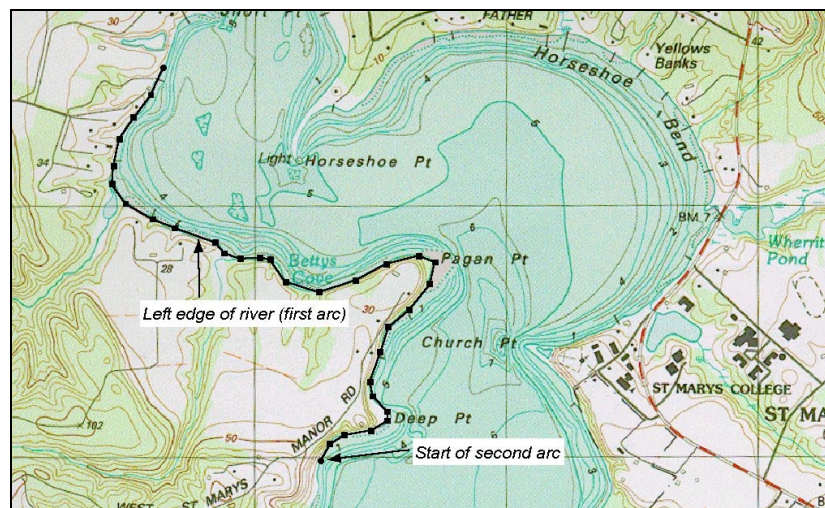

Figure 2-4 Creation of the first feature arc.
2. Click out the left riverbank, as shown in Figure 2-4. As you create the arc, if you make a mistake and wish to back up, press the *BACKSPACE* key. If you wish to abort the arc and start over, press the *ESC* key. Double-click the last point to end the arc.